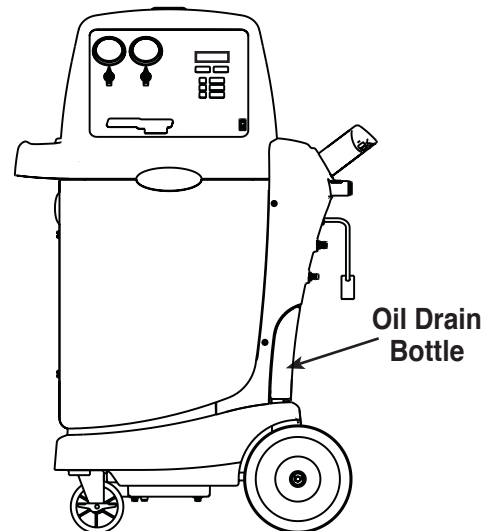

Figure 5
1. Empty the oil drain bottle located on the right-hand side of the unit, if necessary, or make note of the current oil level. See Figure 5.